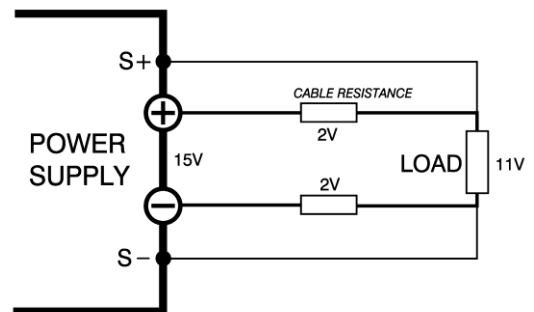

Figure 7.8: Remote sensing: voltage drop in DC load leads subtracts from the maximum DC output voltage.
- For example, shown in Figure 7.8, on a 15 V power supply only 11 V will be available at the load when 2 x 2 V compensation is used.